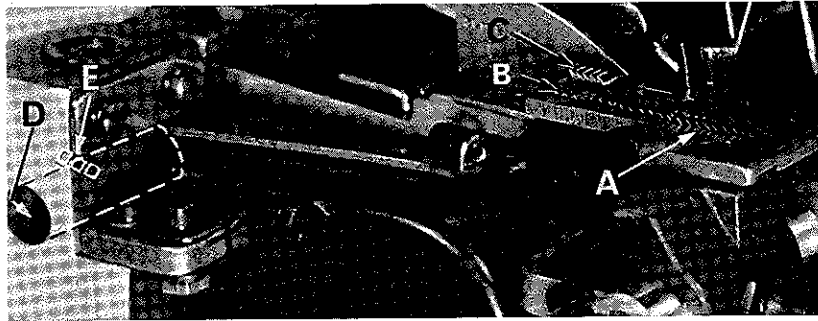

Fig. 12
Set all feed dogs (A, B, C, Fig. 12) so the top surfaces of teeth all lay in the same plane. This can be checked by sighting across teeth with a straight edge. Now assemble throat plate. Feed dogs should now be leveled with throat plate surface by rotating feed tilting adjusting pin (D). This pin raises or lowers the back end of both feed bars at the same time.